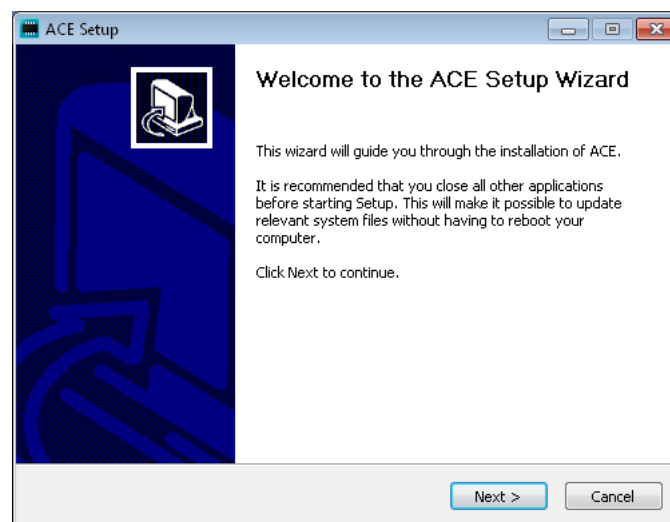

Figure 2-1: ACE Setup Wizard Step 1
Step 1: Close all open instances of ACE before clicking "Next" to proceed, Figure 2-1.